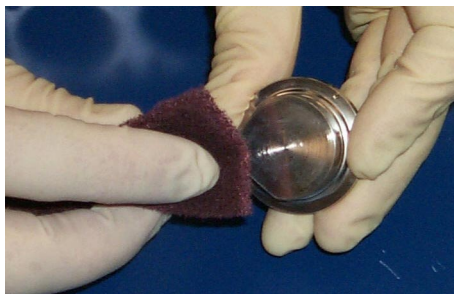

Figure 5-21 Discolored Ground Magnet Pole Piece
27. Using the Scotchbrite pad, polish away any discolored areas of the magnetic pole pieces (Figure 5-21).